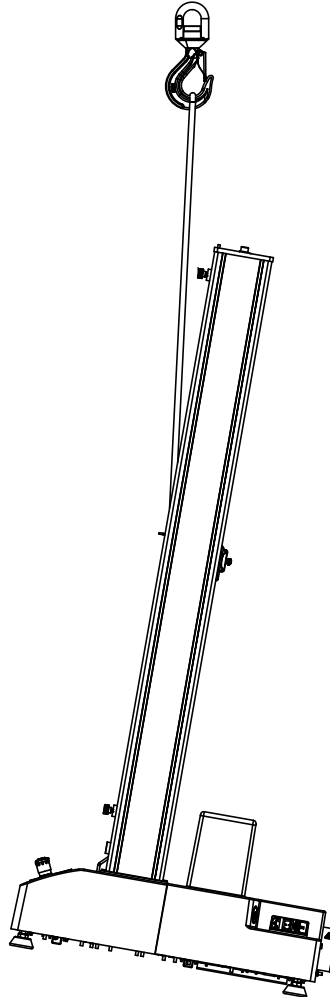

Figure 12. Lifting Load Frame with a Crane
1. Attach the lifting sling to the crosshead and secure it to the crane hook such that the sling extends vertically from the FRONT of the crosshead as shown in Figure 12 on page 61. If you use chains in lieu of a lifting sling, wrap protective material around the crosshead to protect the crosshead from scratching and marring.